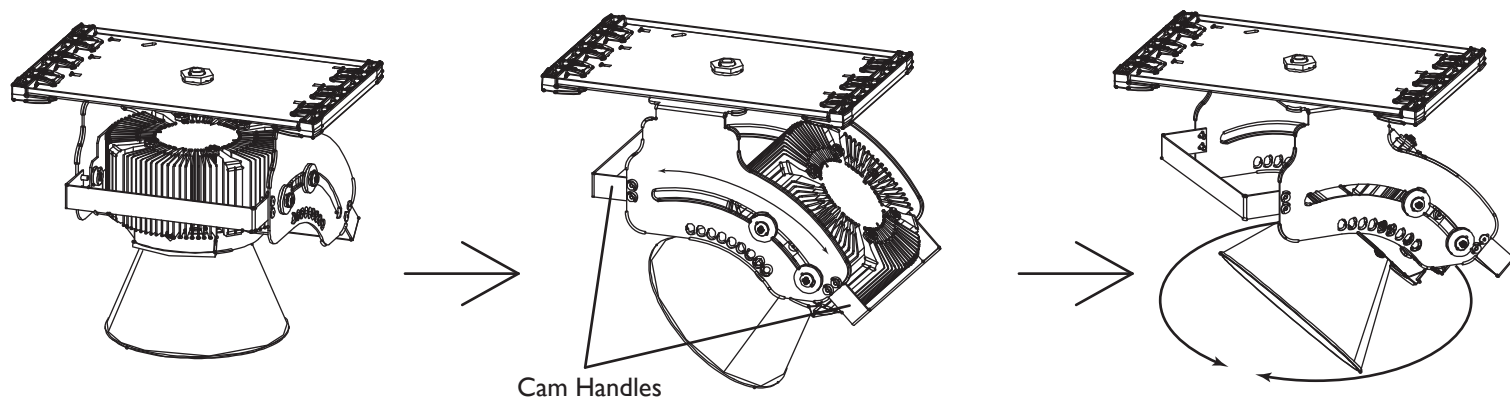

FIG 16
5.3 - Aim the head as required by holding the cam handles and pushing the downlight head to tilt it from 0° to 45° in 5° intervals. The head can also be rotated 360°, and slid a maximum of 24" left or right of its center point. No tools are required for aiming (Fig. 16).